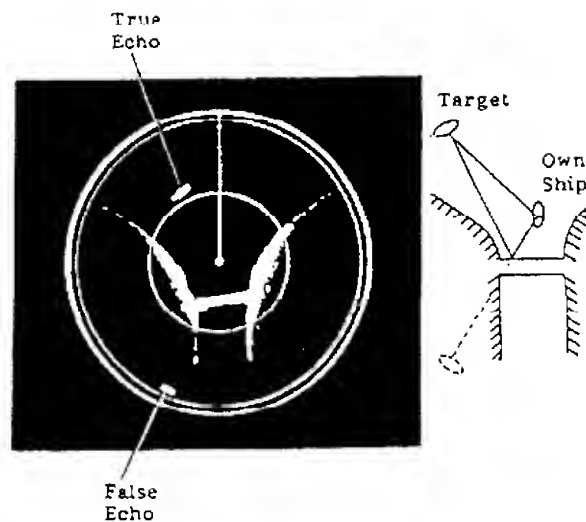

Fig.43 Indirect Echoes
Indirect echoes may be returned from either a passing ship or returned from a reflecting surface on your own ship, for example, a stack. In both cases, the echo will return from a legitimate contact to the antenna by the same indirect path. The echo will appear on the same bearing of the reflected surface, but at the same range as the direct echo. Fig.43 illustrates the effect of an indirect echo. Indirect echoes may be recognized as follows. (1) they usually occur in a shadow sector; (2) they appear on the bearing of the obstruction but at the range of the legitimate contact; (3) when plotted, their movements are usually abnormal, and (4) their shapes may indicate that they are not direct echoes.